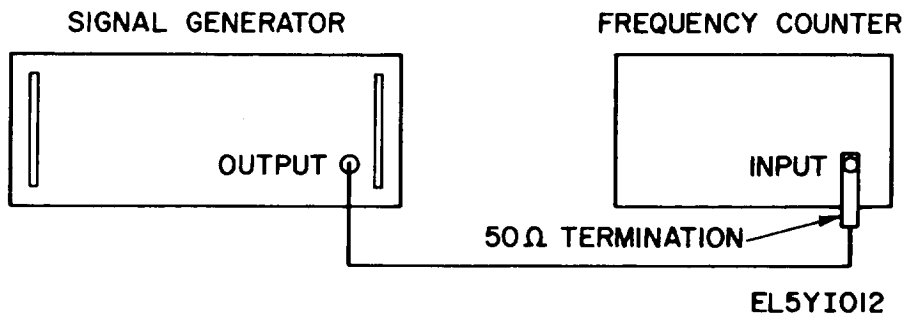

Figure 9-1. Test setup, output frequency accuracy.
- a. Connect the equipment as shown in figure 9-1